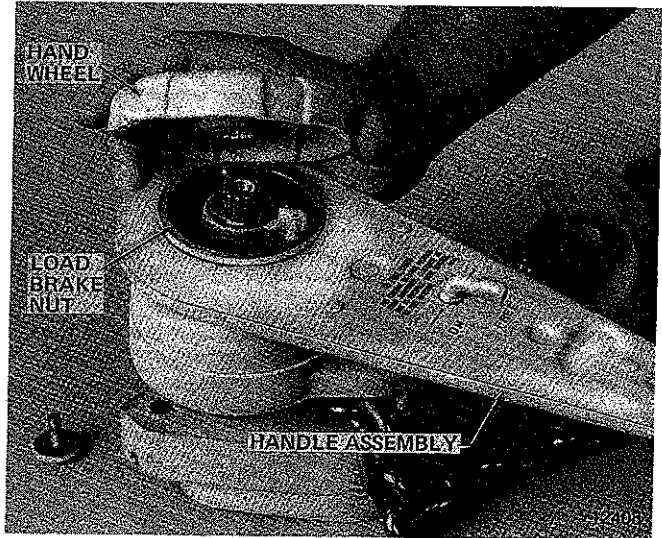

Figure 6-3. Removing Hand Wheel
b. Remove bolt and washer securing hand wheel to pinion shaft and lift off hand wheel. See Figure 6-3.